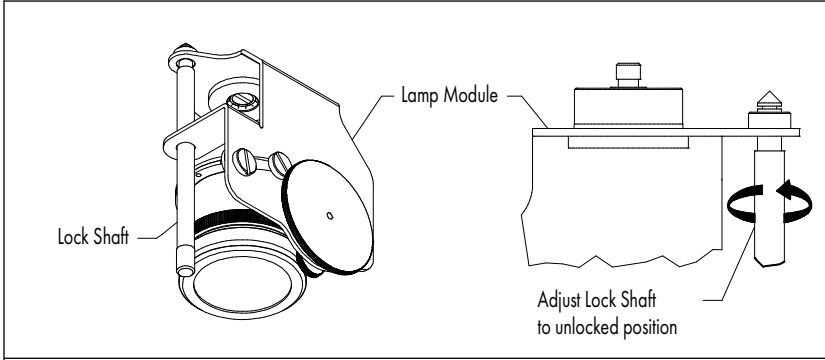

FIG 3.1 Preparing Lamp Module for installation
- STEP 1** Loosen Lock Shaft before removing Lamp Module - **FIG 3.1**